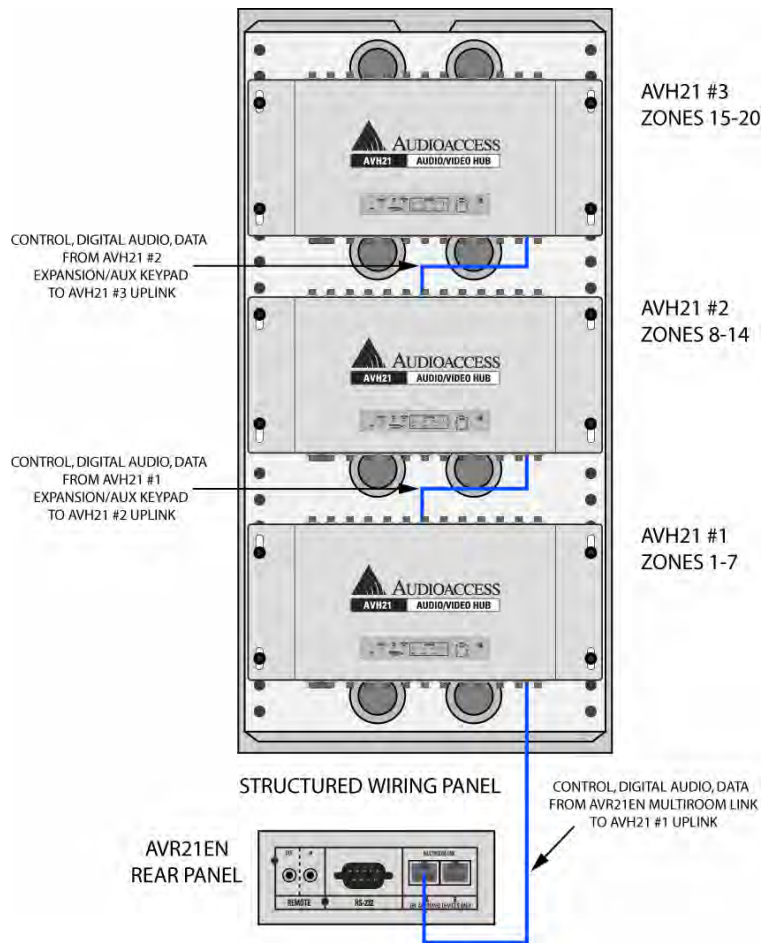

Figure 91 Uplink Connections
1. Using CAT5e cable, properly terminated with RJ45 connectors, connect the **Multiroom Link Terminal [circle 30]** on the AVR21EN to the **Uplink Terminal [pentagon 16]** on the AVH21 as shown in **Figure 91**.
2. In larger systems using multiple Hubs, complete step 1 above by connecting the **Multiroom Link Terminal [circle 30]** on the AVR21EN to the **Uplink Terminal [pentagon 16]** on AVH21 #1 as shown in **Figure 91**.
- a) Using CAT5e cable, properly terminated with RJ45 connectors, connect the **Expansion/AUX KP Terminal [pentagon 6]** on AVH21 #1 to the **Uplink Terminal [pentagon 16]** on AVH21 #2 as shown in **Figure 91**.
- b) If using three Hubs, connect the **Expansion/AUX KP Terminal [pentagon 6]** on AVH21 #2 to the **Uplink Terminal [pentagon 16]** on AVH21 #3 as shown in **Figure 91**.